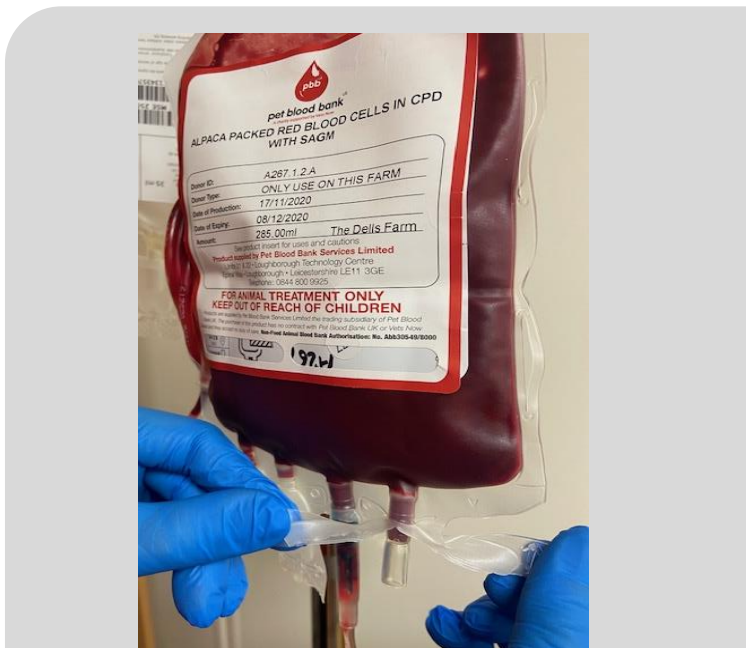

Fig. 2
- Remove the tab from one of the ports on the blood component unit with a twisting motion, taking care not to touch the revealed port (Fig.2).